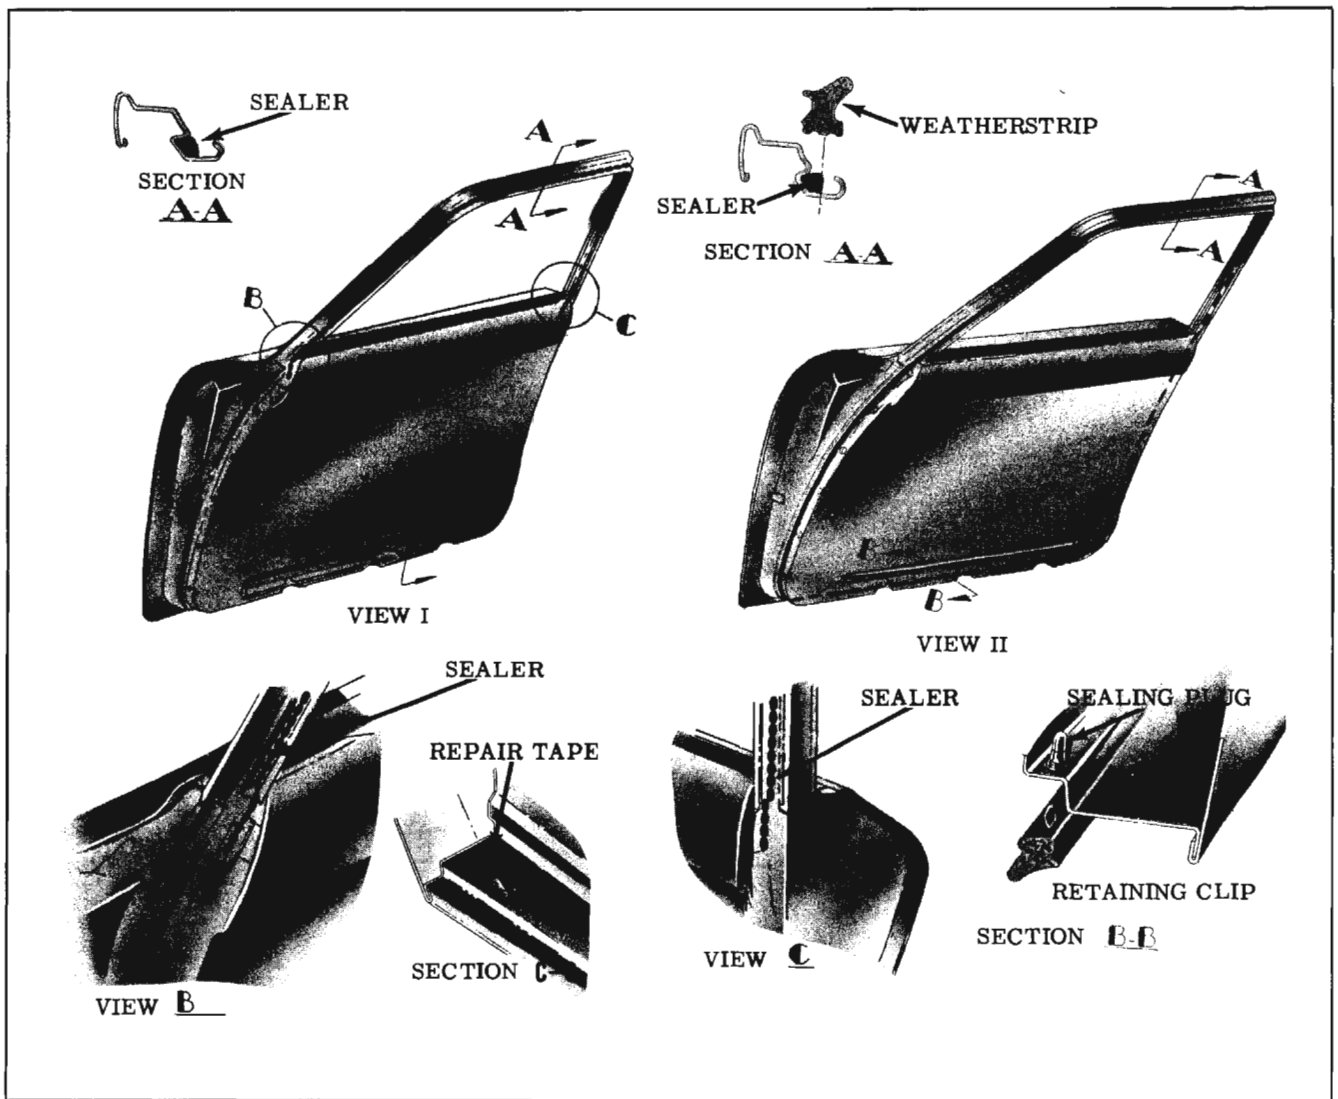
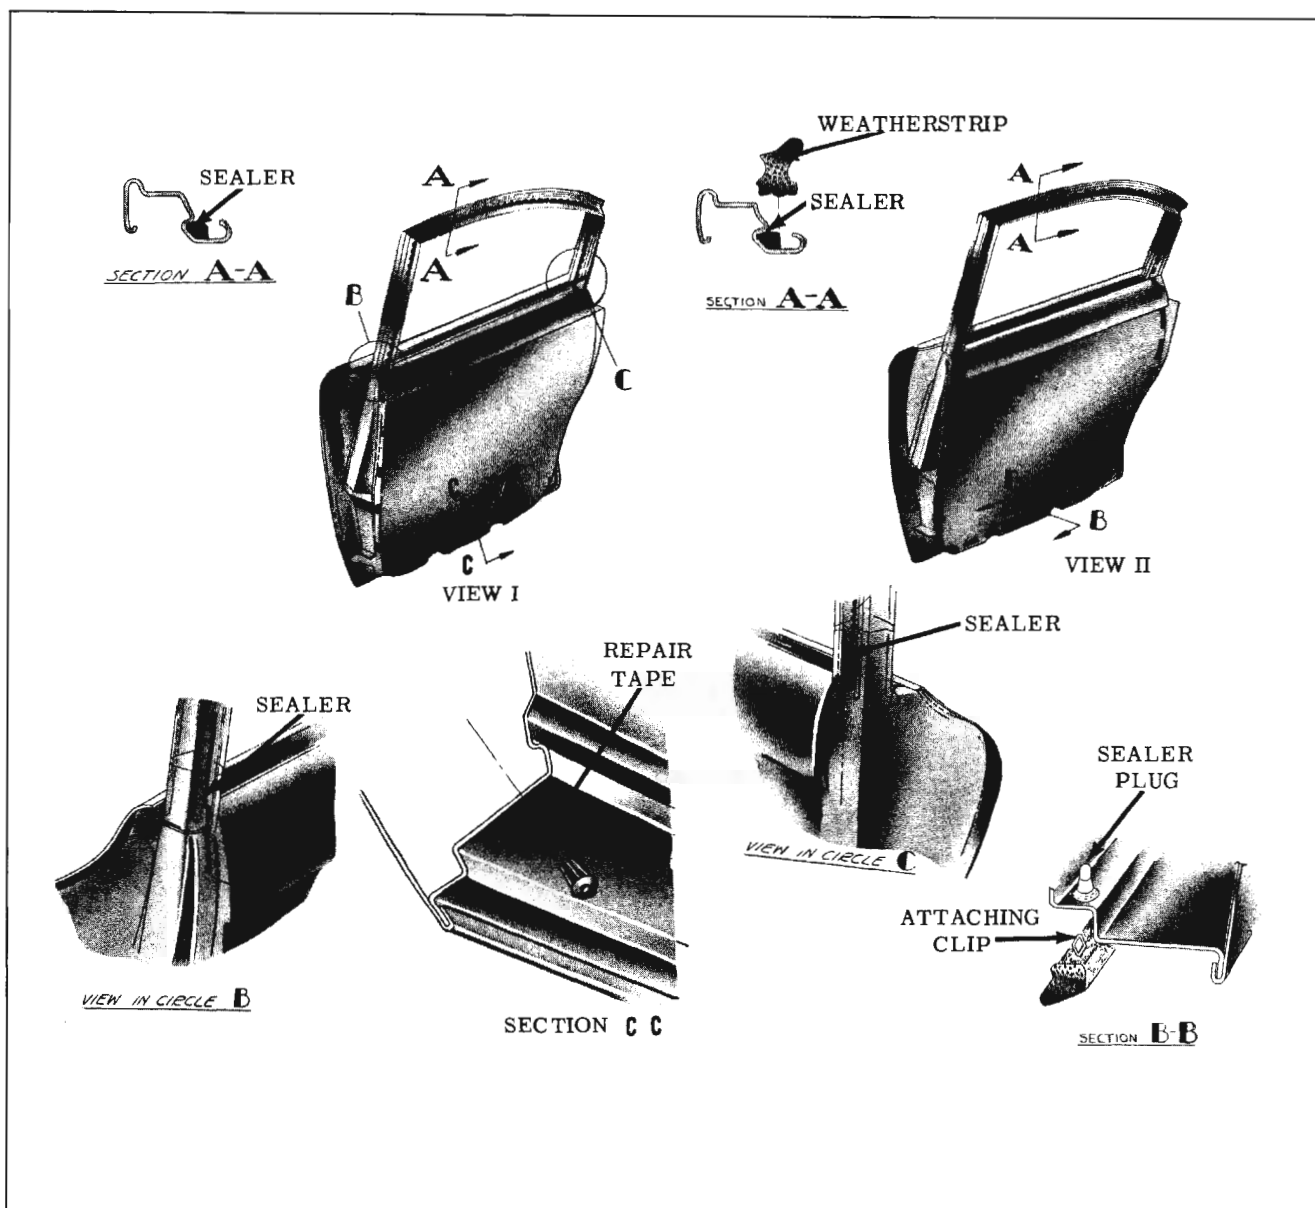

Fig. 16-230 Repairing Weatherstrip Attaching Hole Sealing Plugs
Fig. 16-231 Repairing Weatherstrip Attaching Hole Sealing Plugs
3. Check all attaching hole sealing plugs. If sealing plugs are loose and will not remain engaged in door inner panel, install a 1/2" x 1" piece of clothbacked waterproof body tape over sealing plug retaining hole as shown in Section "C-C" of Fig. 16-230. Make two 5/16" slits in tape to form an "X" pattern, install plug and check for a snug fit. If the plug is still loose, repeat the operation by installing a second piece of tape over the existing repair. This procedure may also be used to repair waterleaks that may develop at sealing plug locations. (Fig. 16-230 for front doors and Fig. 16-231 for rear doors.)
3. Check all attaching hole sealing plugs. If sealing plugs are loose and will not remain engaged in door inner panel, install a 1/2" x 1" piece of cloth-backed waterproof body tape over sealing plug retaining hole as shown in Section "C-C" of Figs. 16-230 and 16-231. Make two 5/16" slits in tape to form an "X" pattern. Install plug and check for a snug fit. If plug is still loose, repeat operation by installing a second piece of tape over existing repair. This procedure may also be used to repair waterleaks that may develop at sealing plug locations.